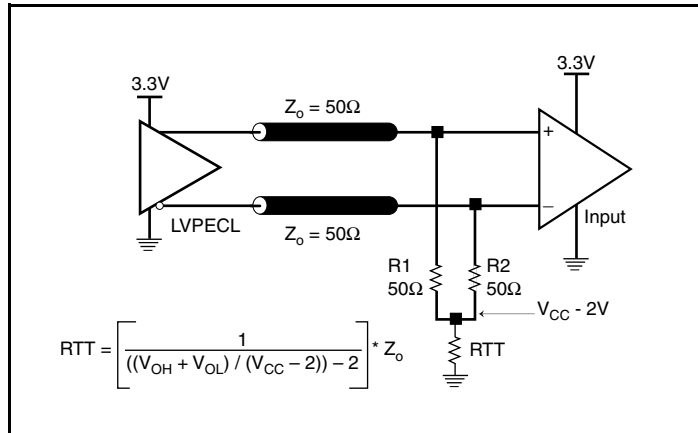

Figure 7A. 3.3V LVPECL Output Termination
*Figures 7A and 7B* show two different layouts which are recommended only as guidelines. Other suitable clock layouts may exist and it would be recommended that the board designers simulate to guarantee compatibility across all printed circuit and clock component process variations.